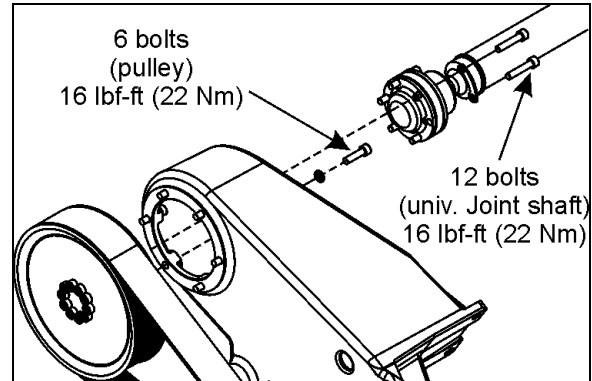

FIGURE 22: TIGHTENING SPECIFICATION
2. Dismount the drive pulley. Gain access to the 6 mounting bolts from behind the pulley, through the opening in the cast aluminum support (Figure 22).
3. Unscrew and remove the universal joint shaft mounting bolts (6) at the right angle gearbox.